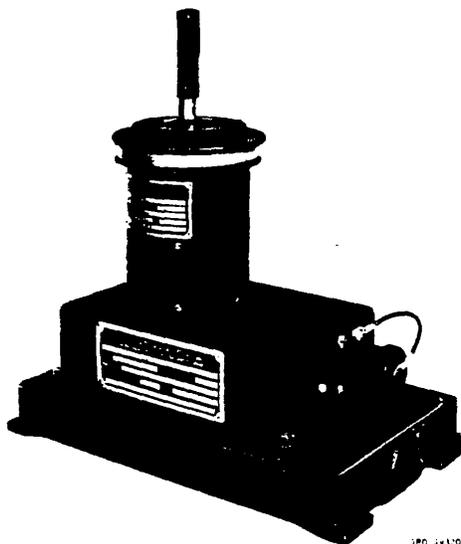

Figure 4. M22 control stick.
(2) *M22 adaption kit.* This kit consists of an M22 control stick (fig. 4), modified to provide electrical command guidance signals to the computer and a cable for connecting it to the computer. The manner in which this control stick responds to movement by the student gunner, helps him make an easier transition from the trainer to a tactical control stick.